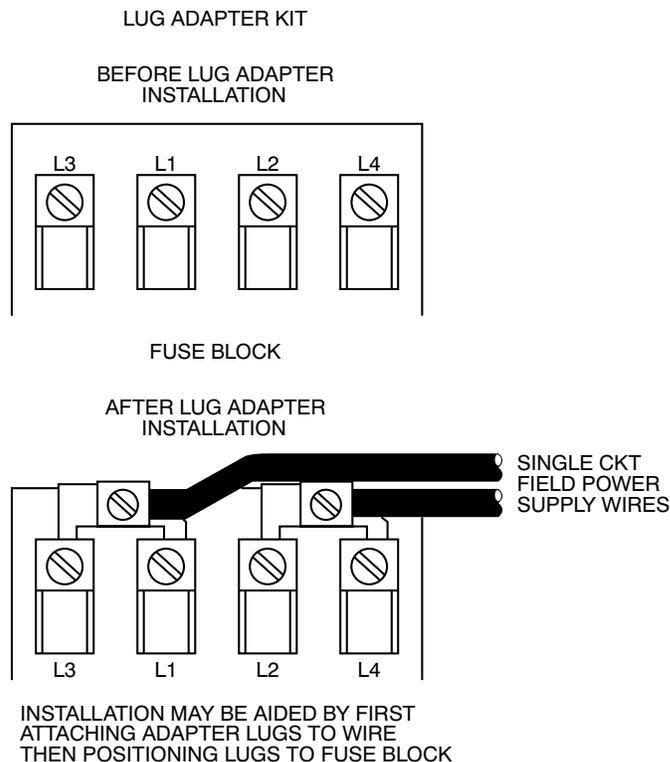

Fig. 1 – Single-Point Wiring Conversion
2. Install the lug adapters in the fuse box lugs and tighten them securely (Fig. 1).